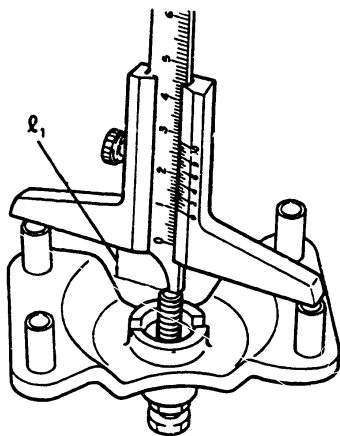

Fig. 43 Adjusting the stopper bolt position
- 2 Install the adjusting cover (KDEP 2616) to the boost compensator after adjusting the cover's stopper bolt installation position so that the distance between the tip of the stopper bolt and the face of the cover is  $L_1$ , as measured in 4 - 6 or 5 - 1 above. (Fig. 43)